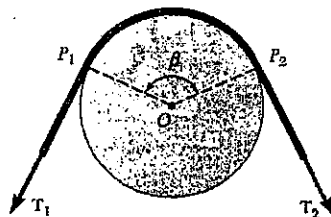

Fig. 4
4. Consider a flat belt passing over a fixed cylindrical drum along the arc  $P_1P_2$  as shown in Fig. 4. We propose to determine the relation existing among the values  $T_1$ ,  $T_2$ ,  $\beta$  and  $\mu_s$  when the belt is just about to slide toward the right. The tension in the left and right sides of the belt are  $T_1$  and  $T_2$ . The angle of the arc  $P_1P_2$  is  $\beta$ . The static friction coefficient between the belt and drum is  $\mu_s$ . [Hint:  $\frac{d}{dT}(\ln T) = \frac{1}{T}$ ] (15 分)